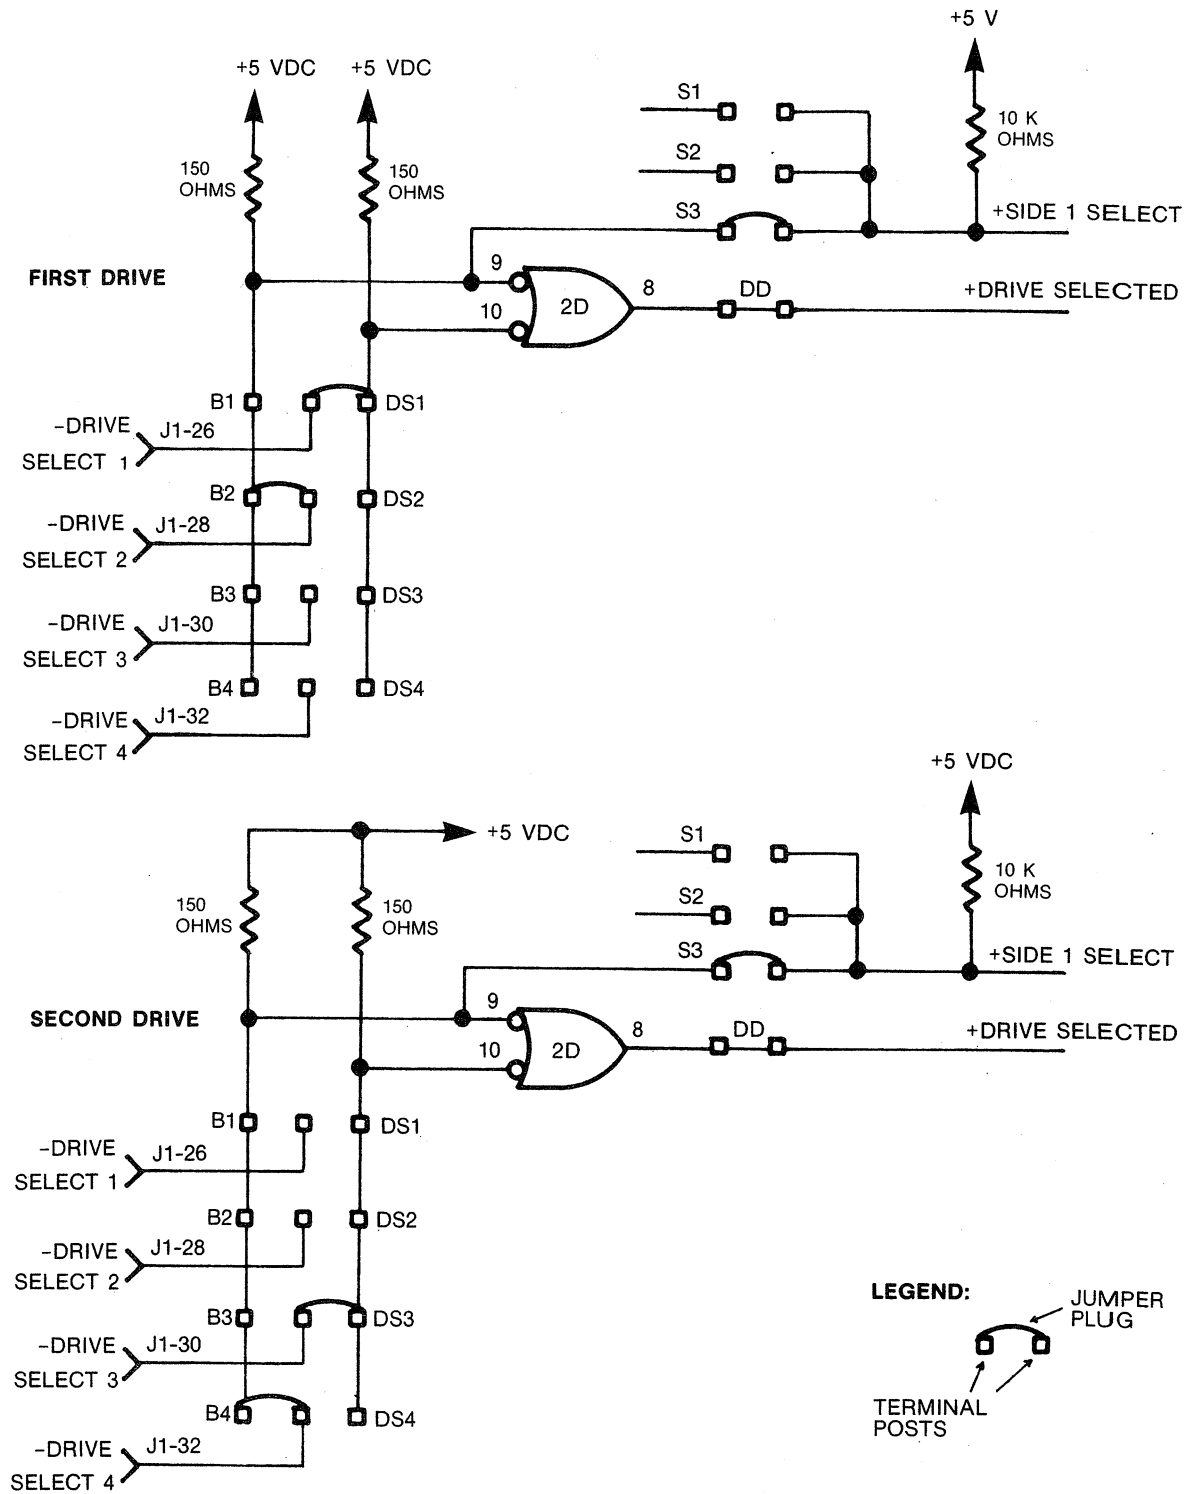

FIGURE 3-12. SIDE SELECTION USING DRIVE SELECT LINES
4. Of the three remaining DS_n locations, choose the appropriate terminal post at B1, B2, B3, or B4 and install a jumper plug for the media side select. See Figure 3-12 and the following example.